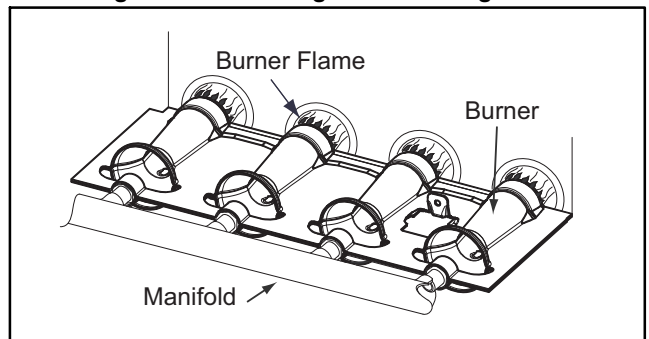

Figure 12 - Burner Flame
8. Reverse items 6 through 1 for reassembly.
11. Check furnace operation through 2 complete heat operating cycles. Look at burners. Burner flames should be clear blue, almost transparent. (See Figure 12.)